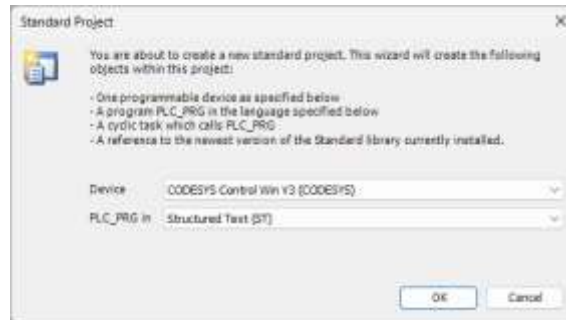

Figure 31. Standard Project Settings Pop-Up
- In the dialog (see Figure 31), select:
- ii. Programming language: **Structured Text (ST)**.